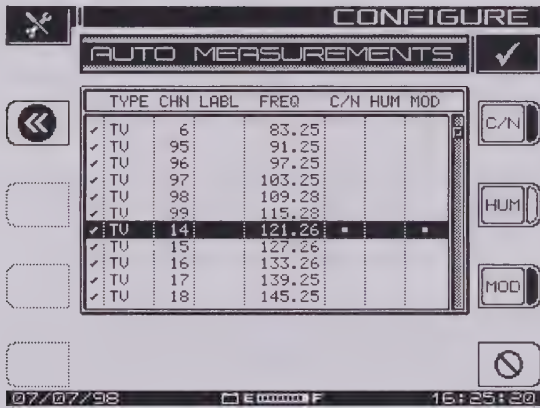

Fig. 3-10 The Auto Measurements Screen
1. Select Specify Auto Measurements from the CHANNEL PLAN menu and press the Continue soft key. The screen shown in Fig. 3-10, AUTO MEASUREMENTS, appears.